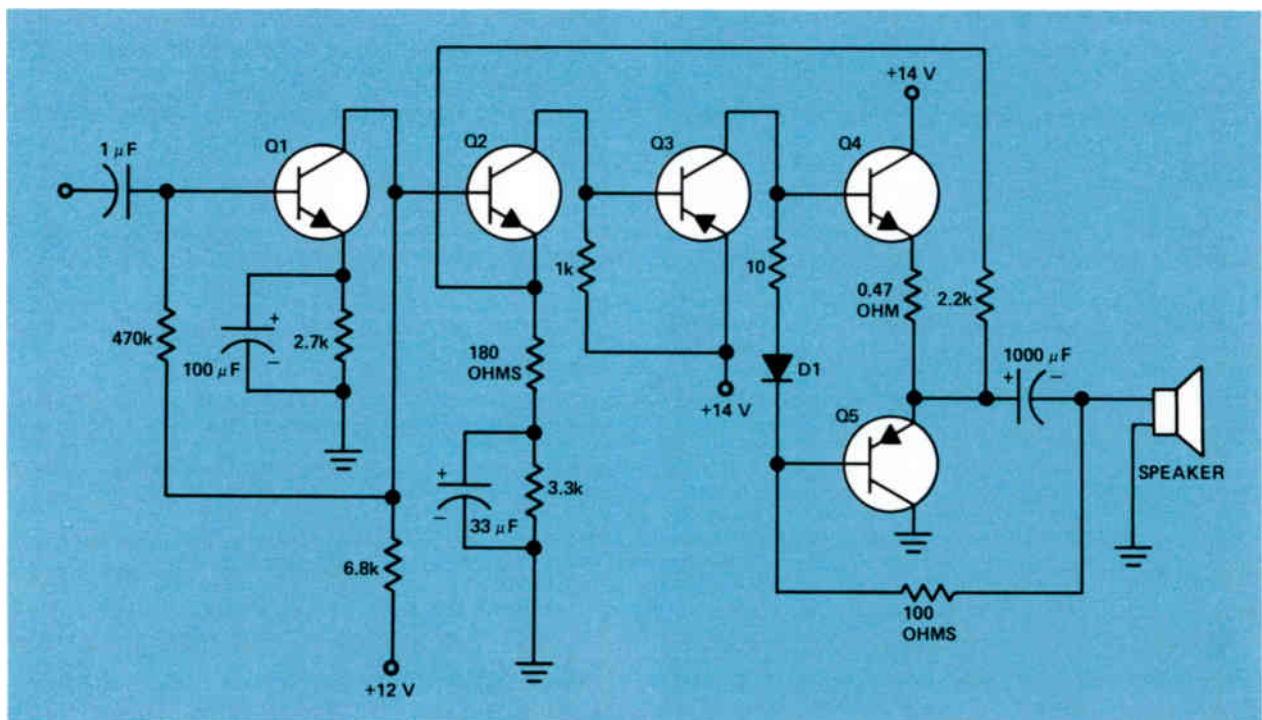

Figure 15. A three-stage negative feedback system.
A more elaborate feedback system where the signal is fed back three stages is shown in Fig.15. In this system, if the base of Q2 (an npn transistor) is driven positive by the signal, the feedback signal drives the emitter positive, reducing the net effect of change in emitter-base forward bias. Similarly, when the base of Q2 swings negative, the feedback signal drives
- 16 In Fig.15, if the input signal causes the current through Q5 to increase, what is the polarity of the feedback signal back to the emitter of Q2?